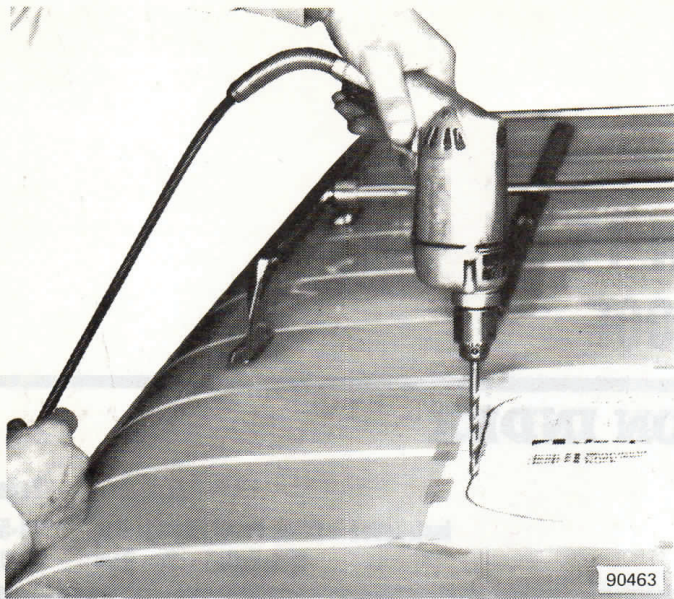

Fig. 14-2 Drilling Pilot Hole
(4) With felt tip pen or grease pencil, mark perimeter of pattern on vehicle roof. Remove pattern.
(5) Mask around outside perimeter of outline on roof to prevent paint damage when sawing. Cover interior of vehicle with plastic sheeting to catch sawdust.
(6) Drill a 1/4-inch diameter pilot hole (minimum) inboard of outline on roof (fig. 14-2). Use hole for sabre saw starting cut.